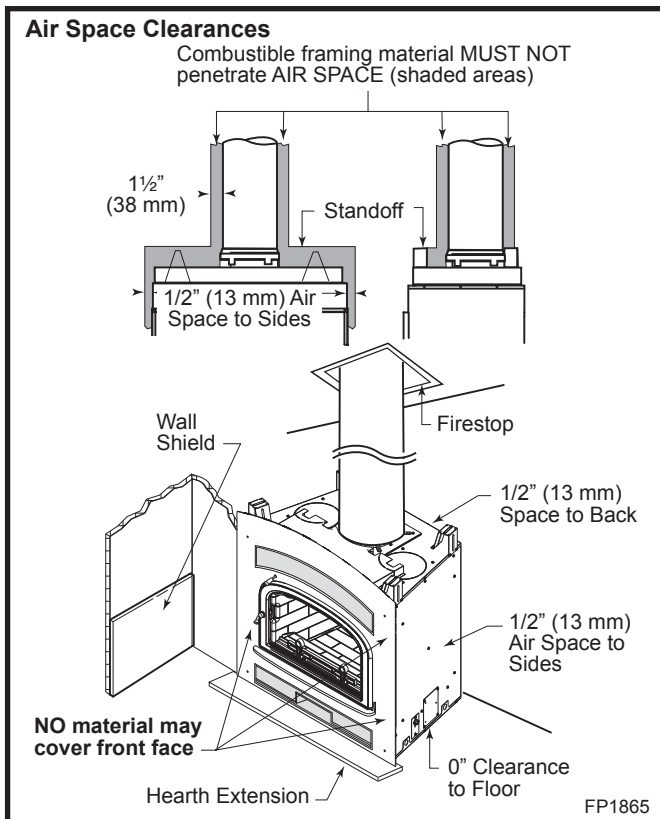

Fig. 28 Minimum clearances to combustibles.
**CAUTION:** All joints between the finished wall and the fireplace sheet metal must be sealed with non-combustible material before installing the steel face plate. This prevents cold air leakage into the room. (Fig. 28, 29)
Adjacent combustible side walls that are within minimum dimensions shown in Figure 34 of the fireplace opening must be protected with MHSC Wall Shield Model SP40 or a specifically built wall shield shown in Figure 28.
The special wall shield design shown in Figure 28 is an alternate method of adding protection to side walls and can be used in place of the SP40 with the same wall clearances specified for the SP40. **Rt must be at least 1.85.**